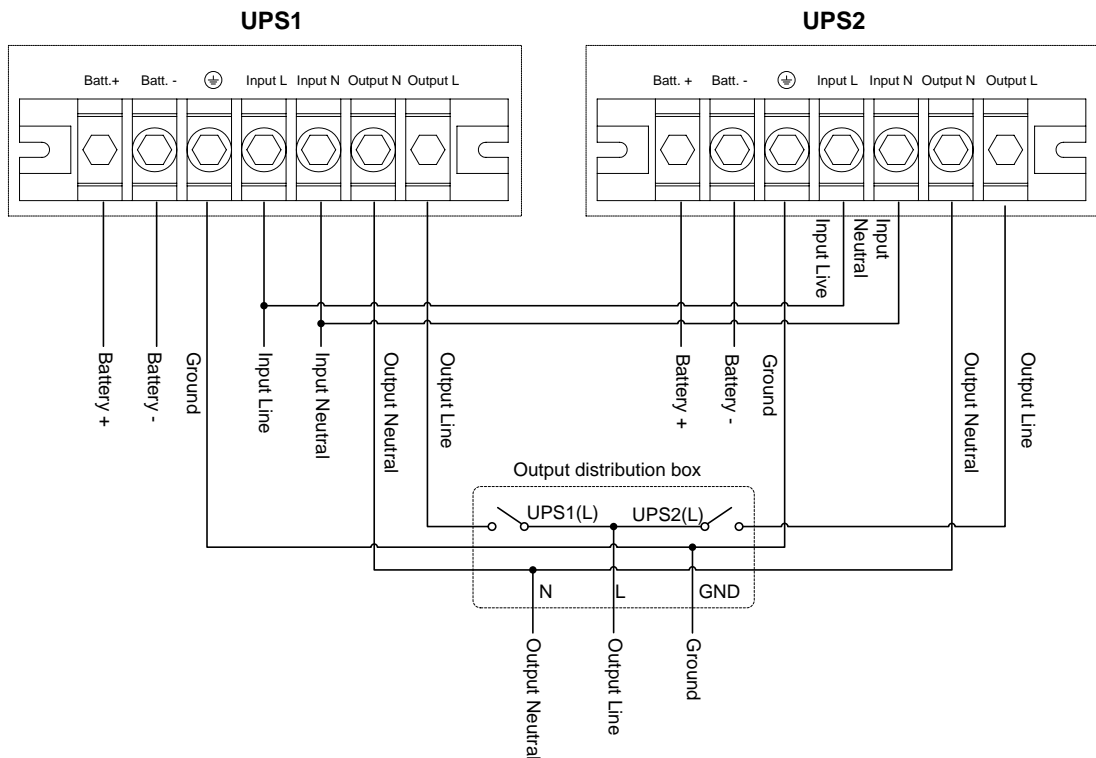

Figure3-10 Wiring diagram of 10kVA(B) parallel system
- Step 2 Connect the AC output of each UPS with the output distribution box, as shown in Figure3-10.